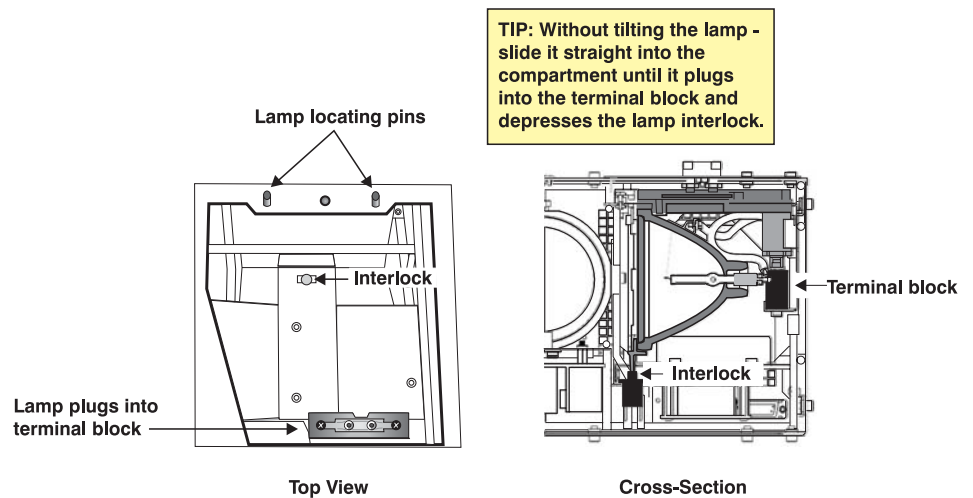

Figure 4.6. Inside the Lamp Compartment
- b) Slide the lamp all the way down until it is fully seated into the compartment. See Figure 4.6.